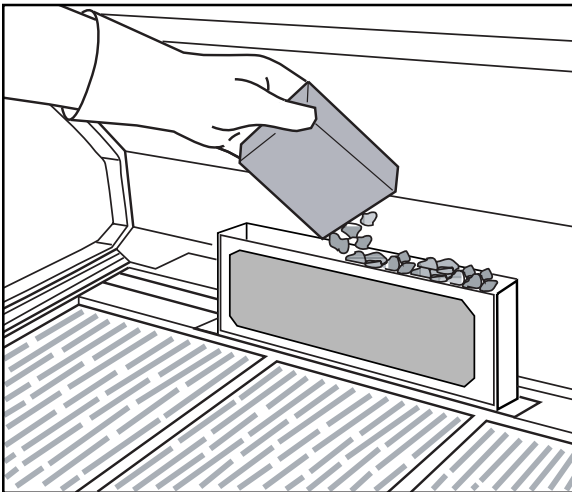

Fig. 14 Rotisserie Burner Smoker Box
3. Remove the lid from the Smoker Box with a pair of tongs, or while wearing an insulated protective mitt and place some of the presoaked material in it (see Fig. 14).
- The **Rotisserie Smoker Box** allows you enhance the flavors of foods by slow smoking with herbs, or a variety of wood chips or chunks (see Fig. 14).